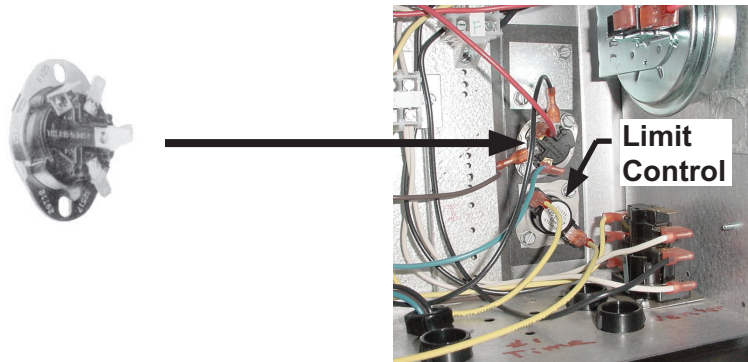

Figure 27. Obsolete Fan Control
2. Remove control access panel, open electrical box cover (if provided), and locate existing fan control (see Figure 27).
4. If unit is equipped with junction box heat shield (see Figure 28), disconnect limit control (see Figure 27) wires. Remove and discard heat shield and reconnect limit control wires.
5. Remove and save two screws that secure existing fan control (see Figure 27) and remove control.